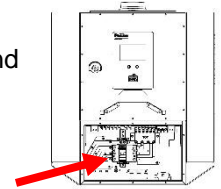

Figure 9 - Open AC Service Panel
1. On uninstalled charger, open AC Service Panel by using a T25 Torx t-handle screwdriver to remove all screws around panel’s perimeter (Figure 9).